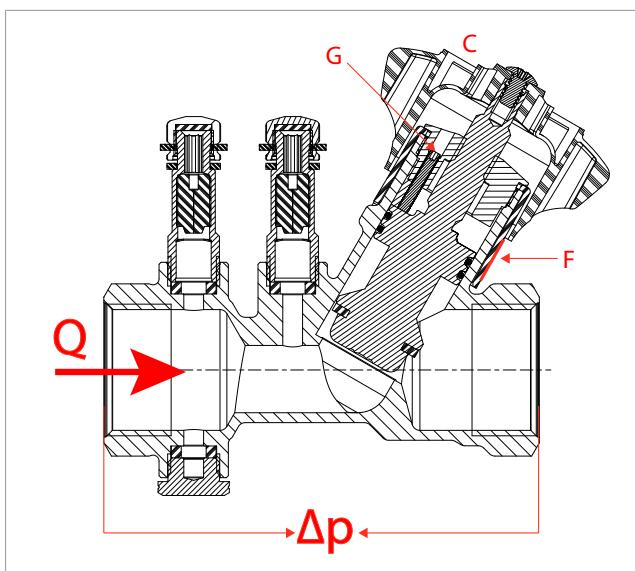

Figure 2
R206B valves are equipped with a mechanism of mechanical memory of the opening (pre-regulation). This mechanism works by limiting the handle stroke (ref. C – fig.2) through a locking screw (ref.G – fig.2).
- Make the regulation of the R206B valve by means of the handle (ref.C-fig.2), on the regulation scale (ref. F – fig.1);
- Screw clockwise until it stops the locking screw of the pre-regulation (ref.G-fig.2) by using an Allen key of: